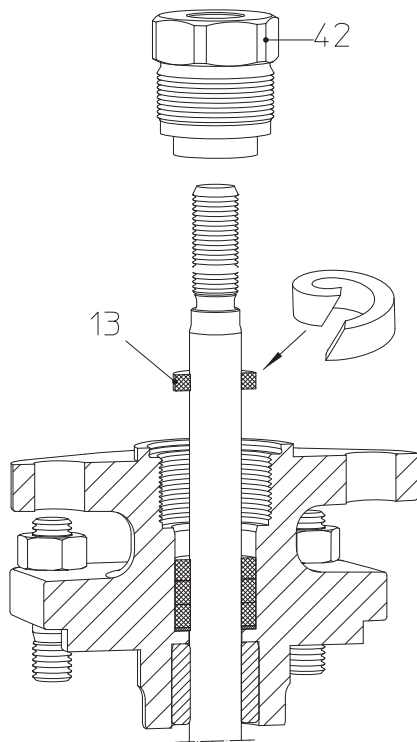
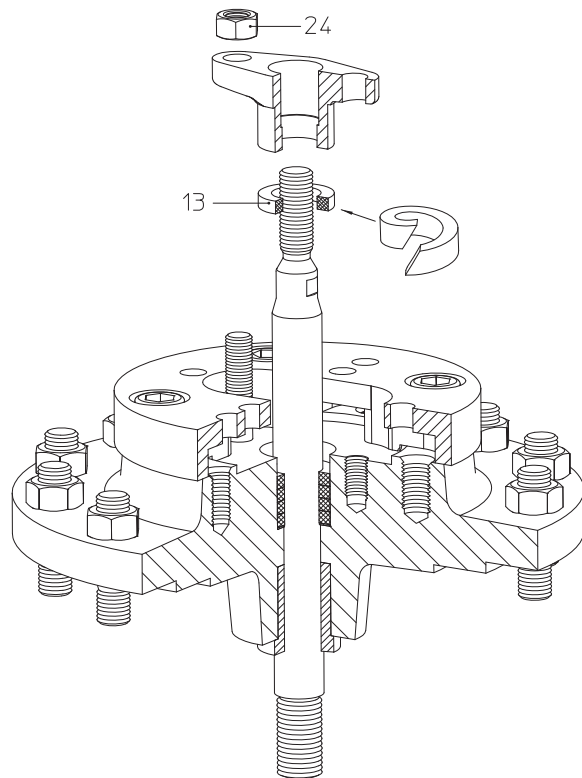

Fig. 13: Stuffing box packing DN15-150
Fig. 14: Stuffing box packing DN125v-150v
- Insert new packing ring as shown in the Fig. 13 and Fig. 14.